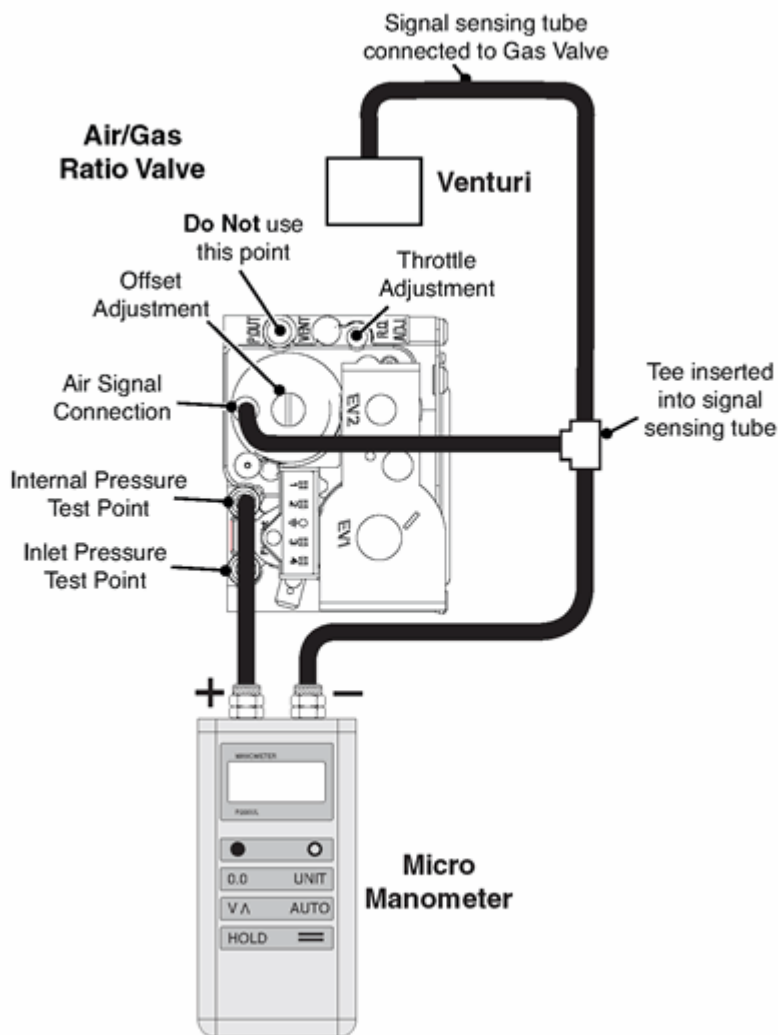

Fig. 77
2. Tee the - (negative) side of the micro manometer into the air sense tube (Fig. 77).